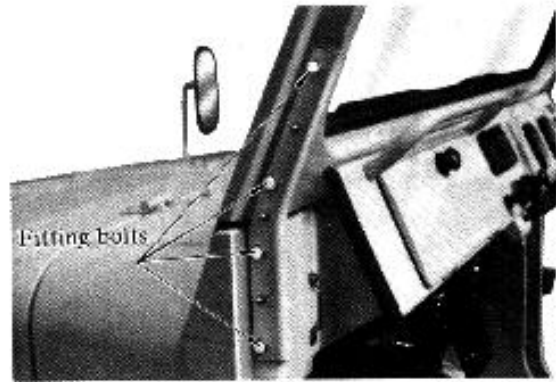

Fig. 15-15
1. Remove front window stop hand, erect front window and fix window with right and left window stoppers. (Fig. 15-15).